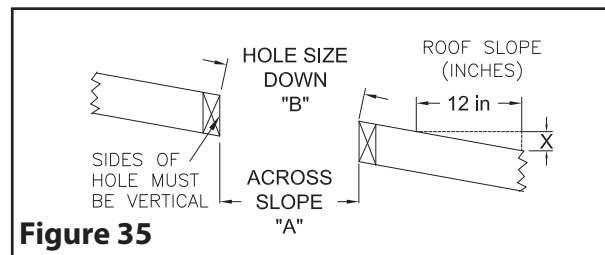

Figure 35
Step 1: Locate the chimney in a convenient location as near as possible to the appliance outlet. Cut and frame an opening in the roof for the support (see **Table 5**). The sides of this hole must be vertical (see **Figure 35**).